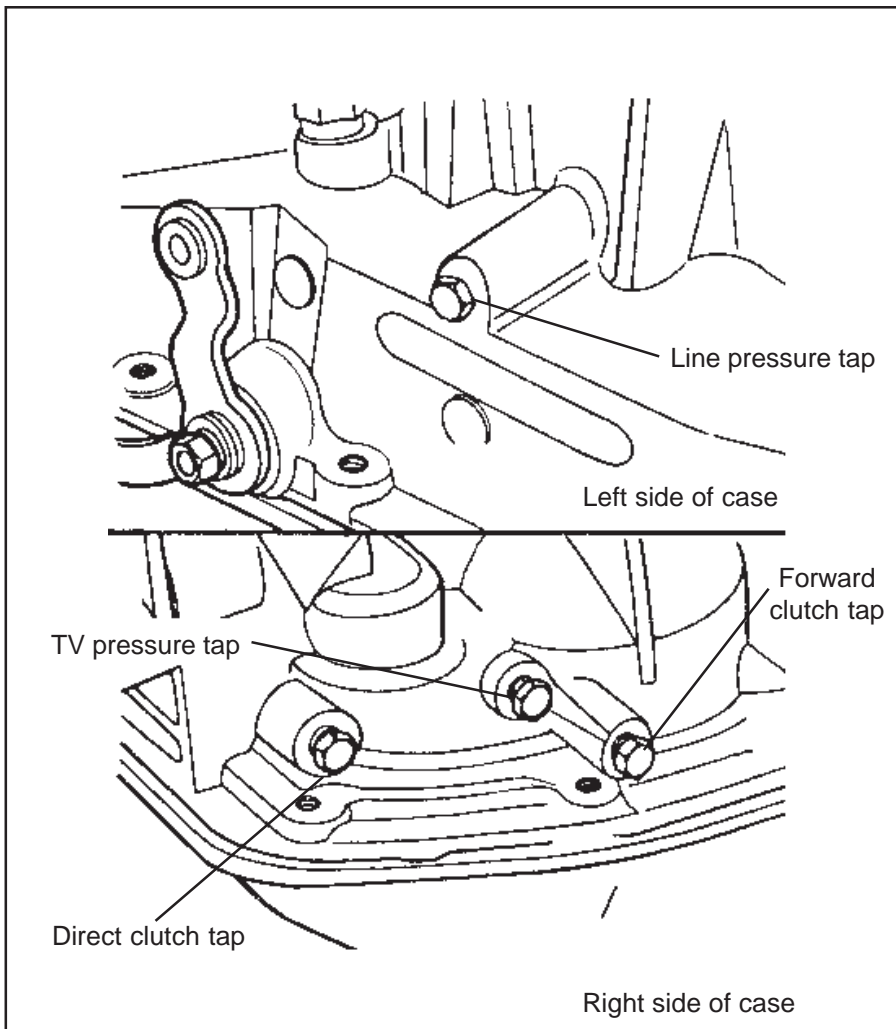

Figure 8
*Connect a 0-300 PSI (0-2000 kPa) pressure gage to the line pressure port located just above the control levers on the right side of the transmission (See Fig. 8). The gage hose must be long enough to read gage while operating engine.
*Connect a 0-100 PSI (0-690 kPa) gage (300 PSI gage will work if it's all you have) to the TV Pressure tap on the right hand side of the transmission (See Fig. 8). The gage hose must be long enough to read gage while operating engine.